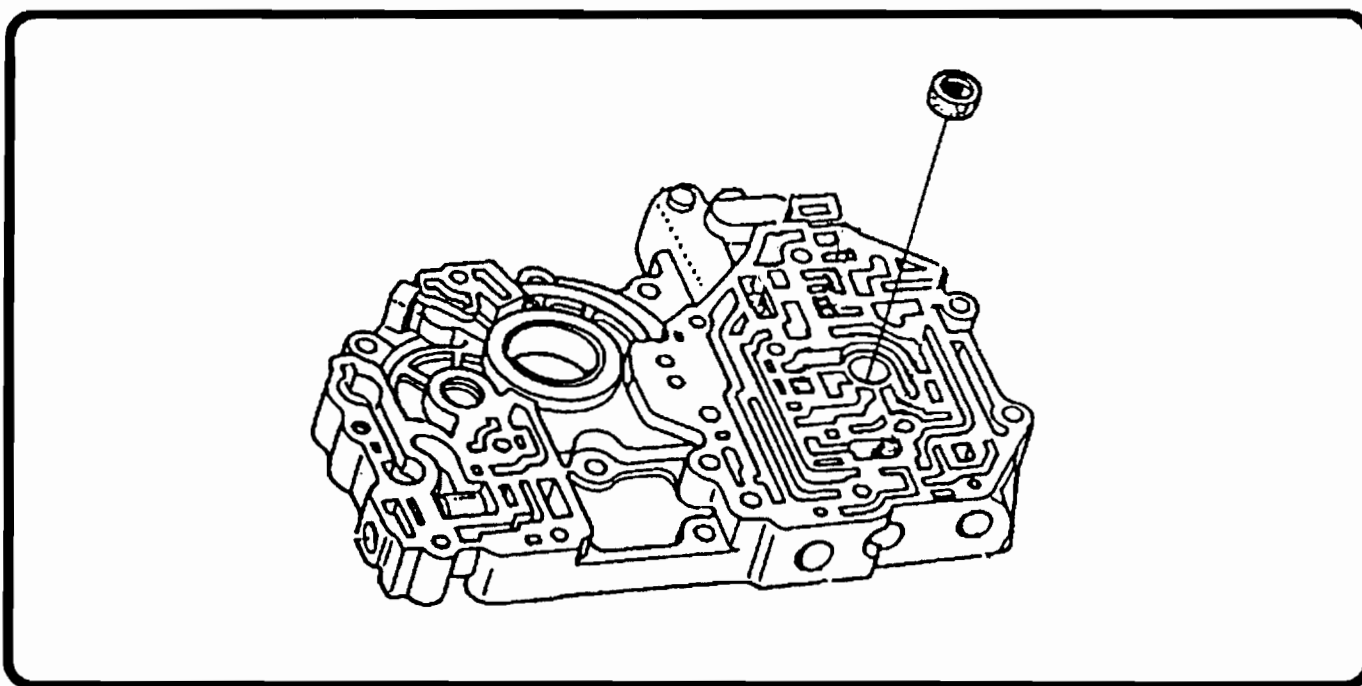

Figure 1
**CORRECTION:** *Clean or replace filter (see figure 1).*